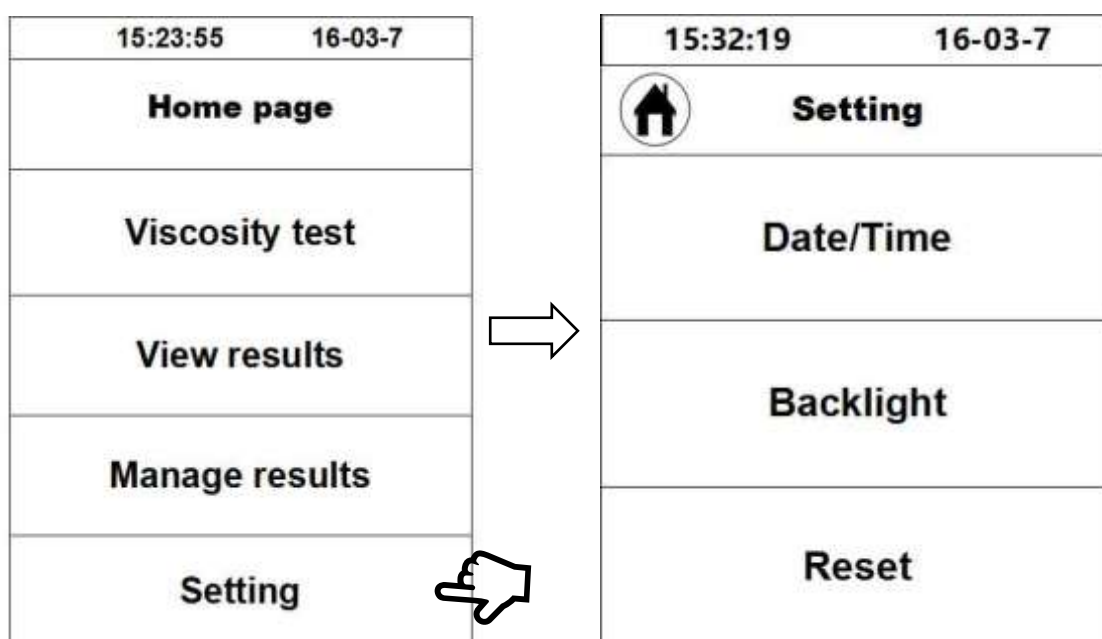

Fig. 28
4. Setting: set the time and date, etc of the instrument (Fig. 28).